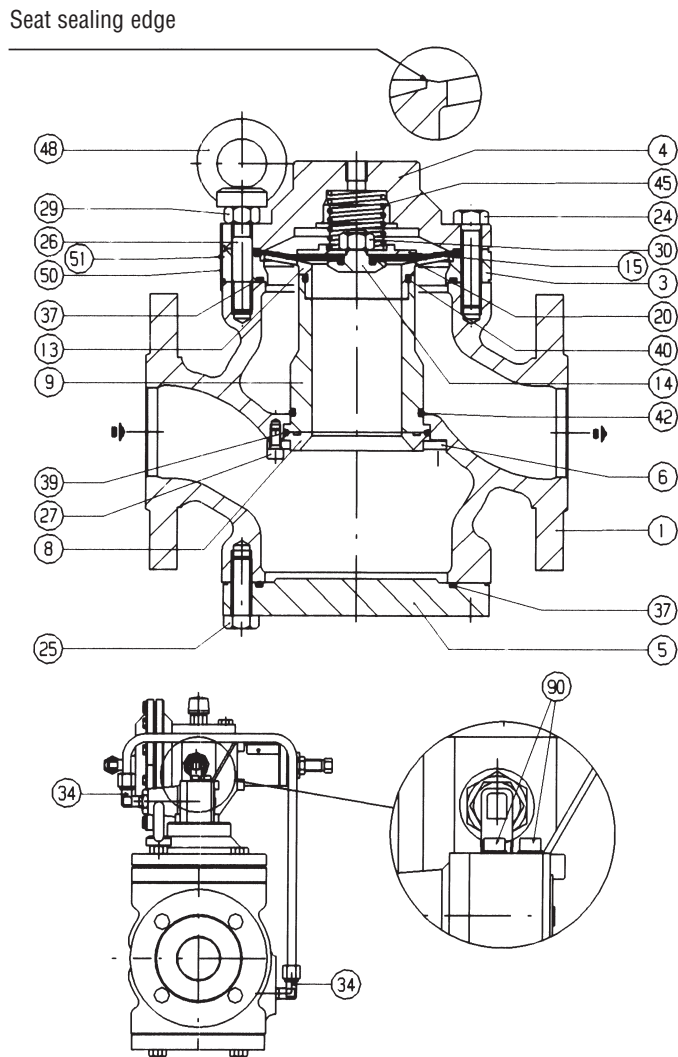

Fig. 23
### 6.1 TAB. 14 APERVAL REGULATOR (FIG. 23, 28 e 29)
**Single regulator (fig. 23)**
- 1) Disconnect the connection pipes between the fittings (33) and (34), and between the pilot and the downstream pressure take-off.
- 2) Remove the screws (90) (fig. 23) and detach the AR73/ + 30./... assembly from the cover (4) of the regulator.
- 3) Remove the screws (71) and raise the cover.
- 5) Unscrew the eyebolts (79) and the nuts (68), and raise the flange (58).
- 6) Remove the basket (64) with the seals (87) and (88).
- 7) Remove the stay bolts (66) and (67) and the plating (60).
- 8) Remove the screws (69), the washers (70) and then the flange (59).